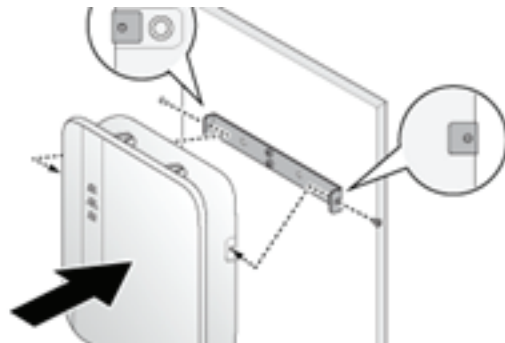

Figure 4-2.
3. See Figure 4-2. Align the screw holes of the mounting bracket with the Power Max 2 Charging Station. Install and secure the Power Max 2 Charging Station on the mounting bracket with the two (2) Torx T30 screws supplied. Torque to 13 lb•in (1.5 N•m).